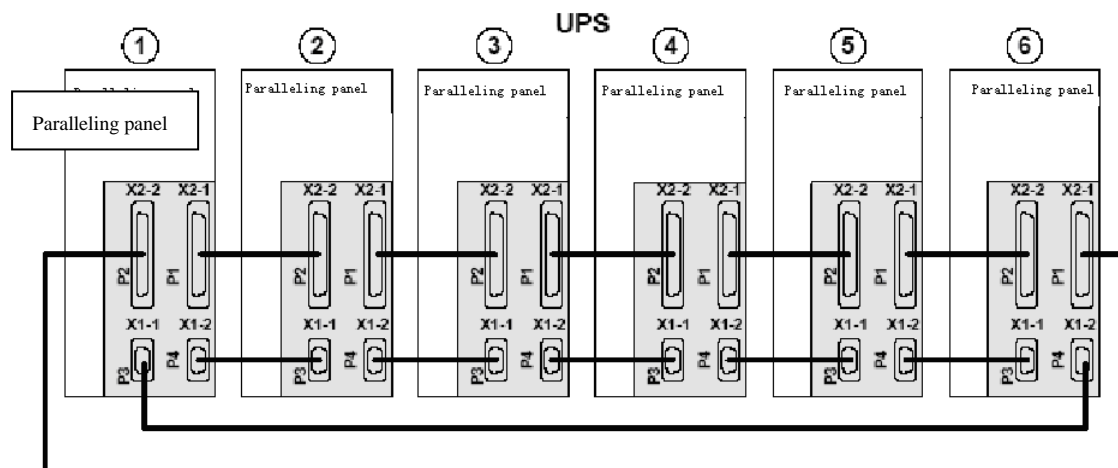

Fig. 2 : Schematic diagram of parallel signal cable's connection
All the parallel cables is double insulated shielding parallel controlled cable with 25 pins, it can form a closed loop as the Fig. 2 shows.
2) The parallel cable is the standard double insulated shielding parallel controlled cable for the machine. Use the parallel cable connect all the UPS refer to the Fig. 2.